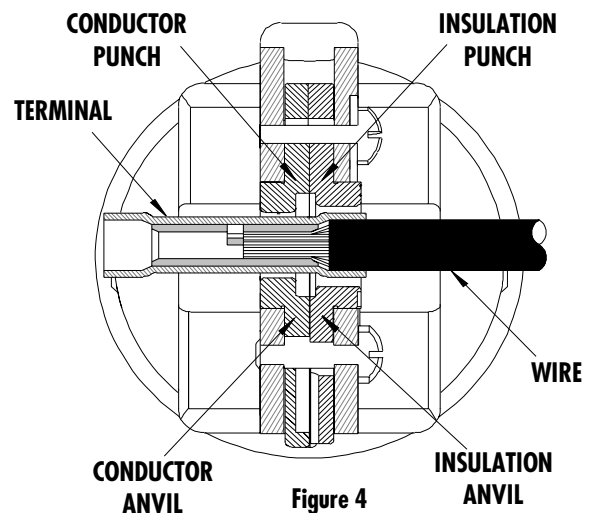

Figure 4
5. When crimping butt splices, or 3-way and 4-way terminals the locator must be removed. Splices must be visually aligned with the tooling inside the insulation crimp (See Figure 4).